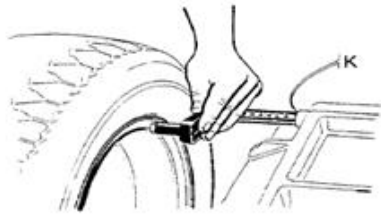

Fig.1
- set “a” value: move the gauge to measuring position as illustrated as Fig.1, hold the gauge still in position for approx. 4 seconds, successful memorization is given, then return the gauge to position 0.(The value measured in automatic mode appear on the display). Or press  and  and  to set manually.